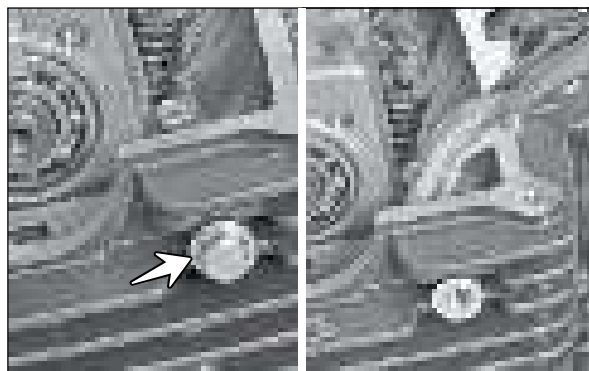

Fig. 3.44
- Take out the cam chain tensioner by removing the bolt cam chain tensioner along with washer cam chain tensioner. (Fig. 3.44)